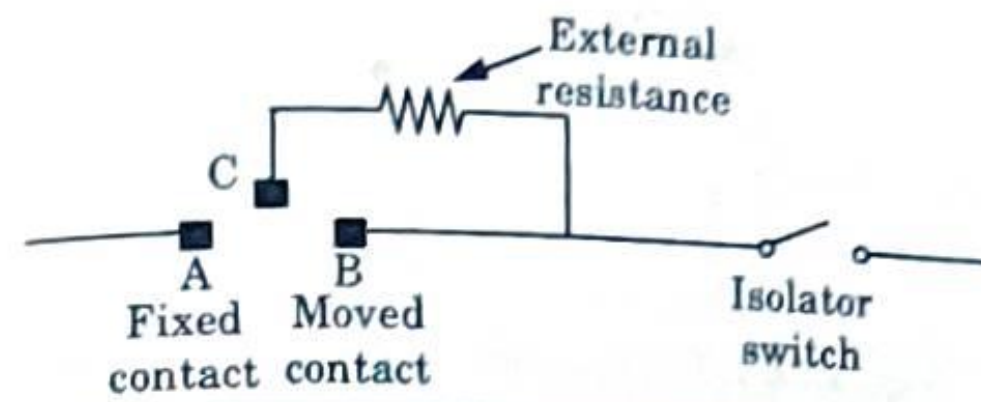

Fig. 4.13.1. Typical resistor connection.
- The time required for this action is very small. As shown in the Fig. 4.13.1, the arc first appears across points A and B which is then transferred across A and C.